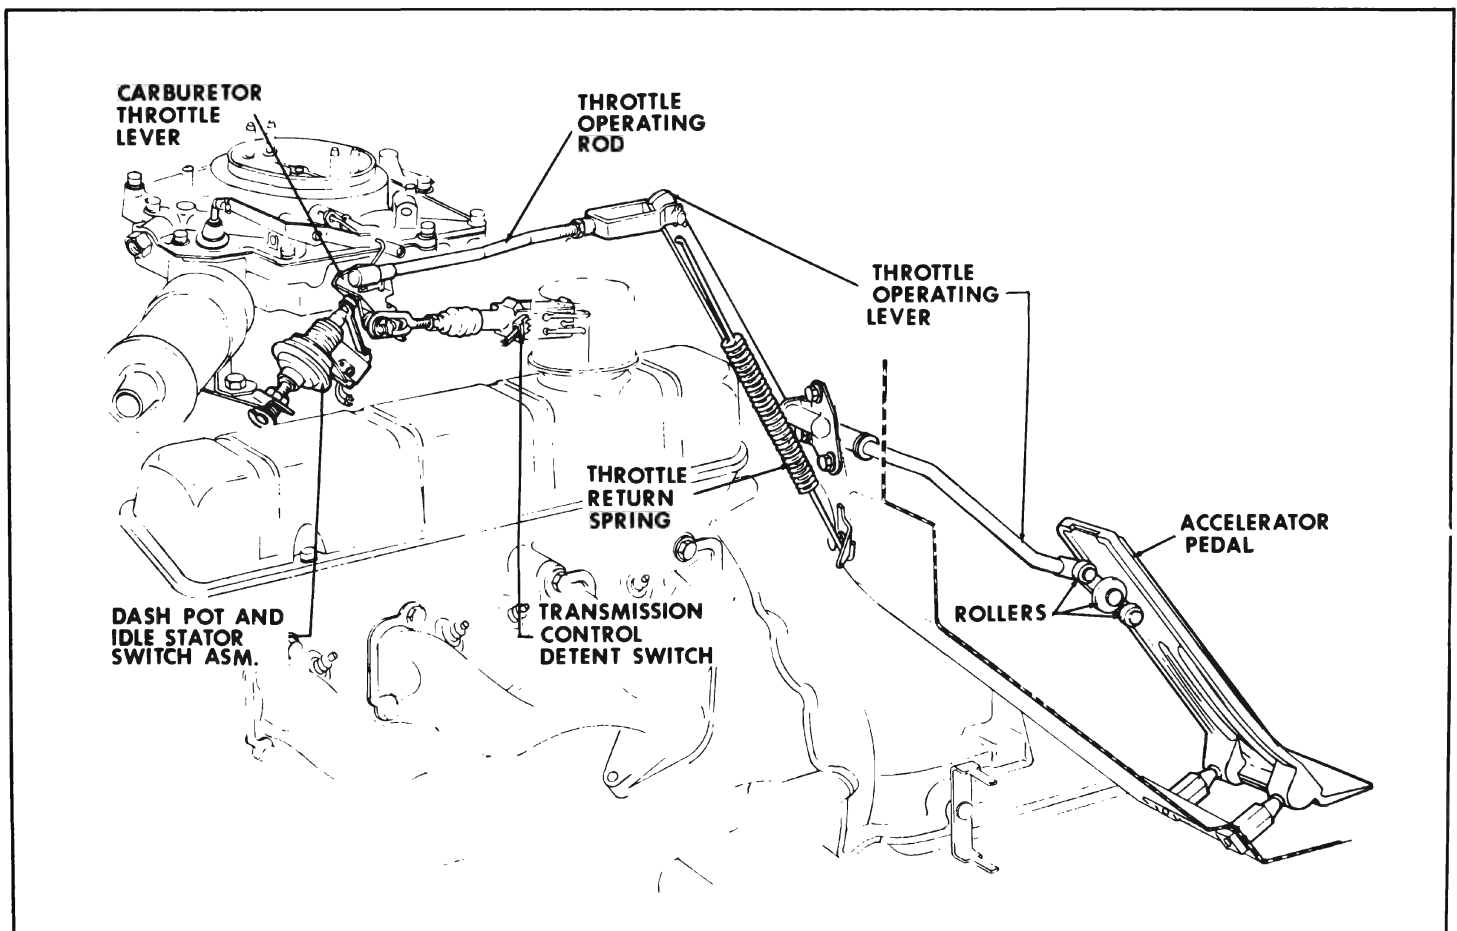

Figure 3-17—Throttle Linkage and Transmission Control Switches-300 Engine
2. Unsnap front end of throttle operating rod from carburetor throttle lever. See Figure 3-17. While another man presses accelerator pedal against floor mat, hold carburetor throttle lever in wide open position and hold throttle rod socket in alignment with ball on throttle lever. Socket must be approximately 1/16 inch (2 turns) short of ball. If adjustment is necessary, loosen lock nut, adjust throttle rod length as required, and retighten lock nut.
On 2-speed automatic transmission cars only, the switch also has a second set of contacts which close slightly before wide open throttle position to cause the stator blades in the transmission to "switch-the-pitch" to high performance angle. See Figures 3-17 and 3-18.
Used only with the 2-speed automatic transmission, this switch closes just before the throttle reaches slow idle position; this causes a solenoid valve in the transmission to operate, which, in turn, causes the stator blades to "switch-the-pitch" to high angle. This reduces the transmission load on the engine at idle, thereby reducing the tendency of the car to creep. See Figure 3-17.